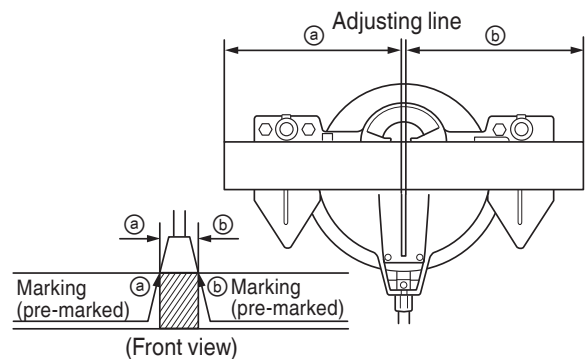

Fig. 15
- (1) As shown in Fig. 15 the width of the saw blade is the width of the cut. Therefore, slide the workpiece to the right (viewed from the operator's position) when length (a) is desired, or to the left when length (b) is desired.
- (2) Once the saw blade reaches maximum speed, push the handle down carefully until the saw blade approaches the workpiece.
- (3) Once the saw blade contacts the workpiece, push the handle down gradually to cut into the workpiece.
- (4) After cutting the workpiece to the desired depth, turn the power tool OFF and let the saw blade stop completely before raising the handle from the workpiece to return it to the full retract position.